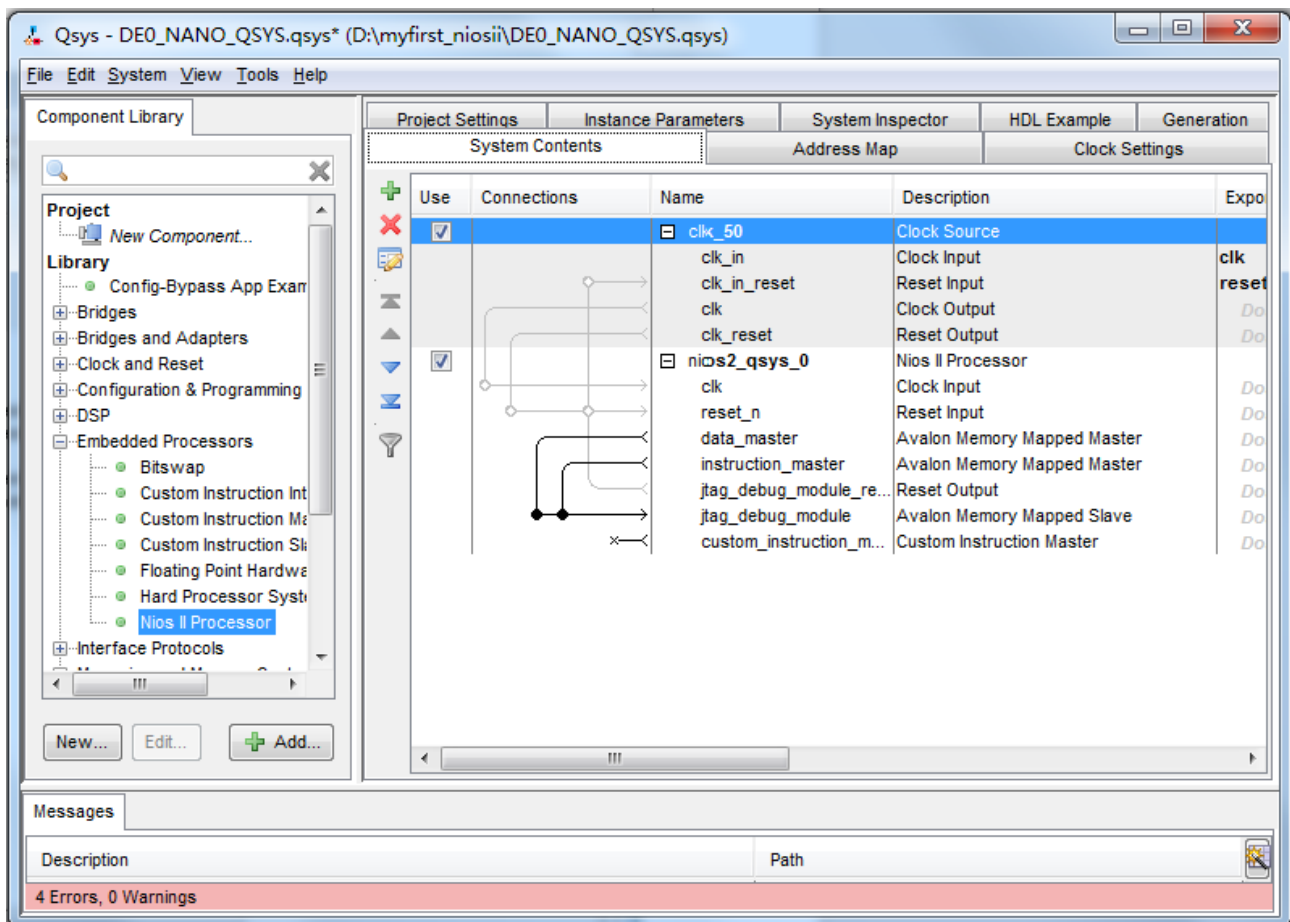

Figure 1-17 Add Nios II CPU completely
10. Click Finish to return to main window as shown in Figure 1-17.